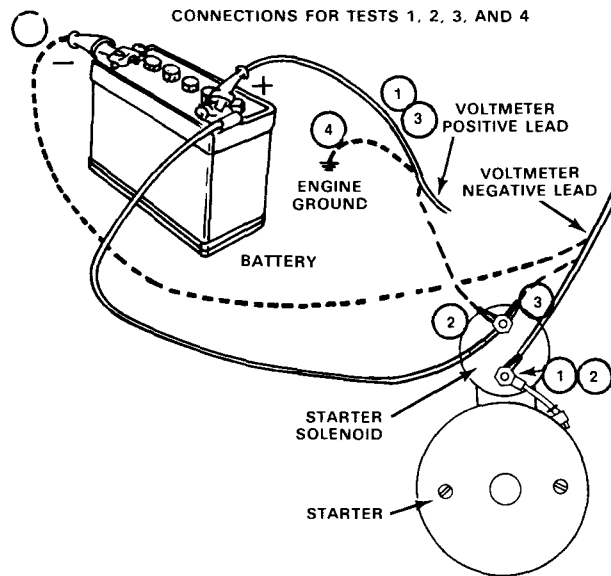

FIG. 2 Starter Cranking Circuit Test
These tests will determine whether or not there is excessive resistance in the cranking circuit. Make each test connection as shown in Fig. 2. Connect a remote control starter switch to the solenoid between the battery terminal and the starter switch terminal. While cranking the engine, observe the voltage drop reading for each test.
1. 0.5 volt with the voltmeter negative lead connected to the starter terminal of the solenoid and the positive lead connected to the positive battery terminal (Fig. 2, connection 1).
2. 0.3 volt with the voltmeter negative lead connected to the starter terminal of the solenoid and the positive lead connected to the battery terminal of the solenoid (Fig. 2, connection 2).
3. 0.2 volt with the voltmeter negative lead connected to the battery terminal of the solenoid and the positive lead connected to the positive battery terminal (Fig. 2, connection 3).
4. 0.1 volt with the voltmeter negative lead connected to the negative battery terminal and the positive lead connected to the engine ground (Fig. 2, connection 4).